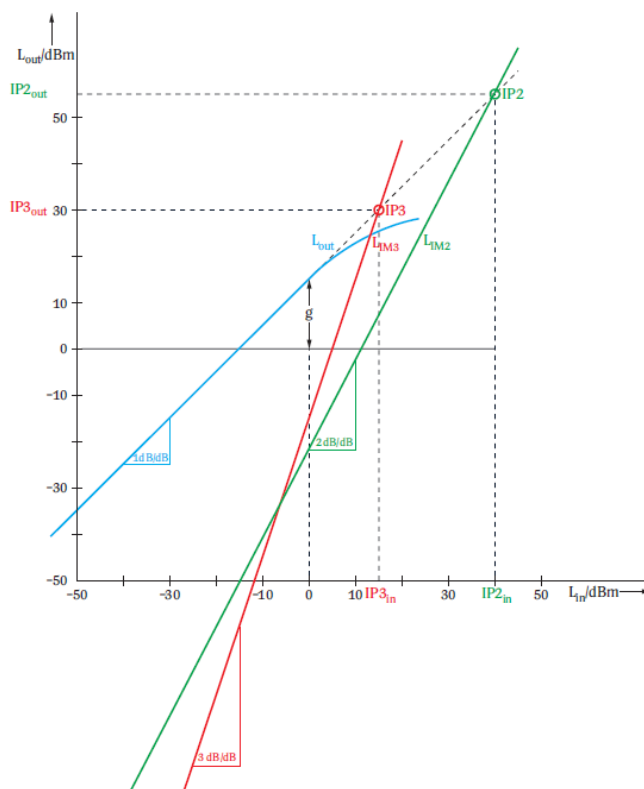

Figure 2 The relationship between IM3 and the input signal power
The intercept point (IP) is a theoretical concept defined as the point at which the extrapolated fundamental output signal (assuming ideal linear amplification) and the extrapolated N-th order intermodulation product output signal (assuming ideal nonlinear extension) become equal in power, as illustrated in Figure 2. However, this intercept point cannot be physically reached in actual measurements, because the device output is typically limited by compression or saturation well before the input signal reaches that level. Among all intermodulation products, the second-order intermodulation product (IM2) and the third-order intermodulation product (IM3) generally have the most significant impact on measurements. Therefore, two intercept points are commonly defined: the second-order intercept point (IP2) and the third-order intercept point (IP3).